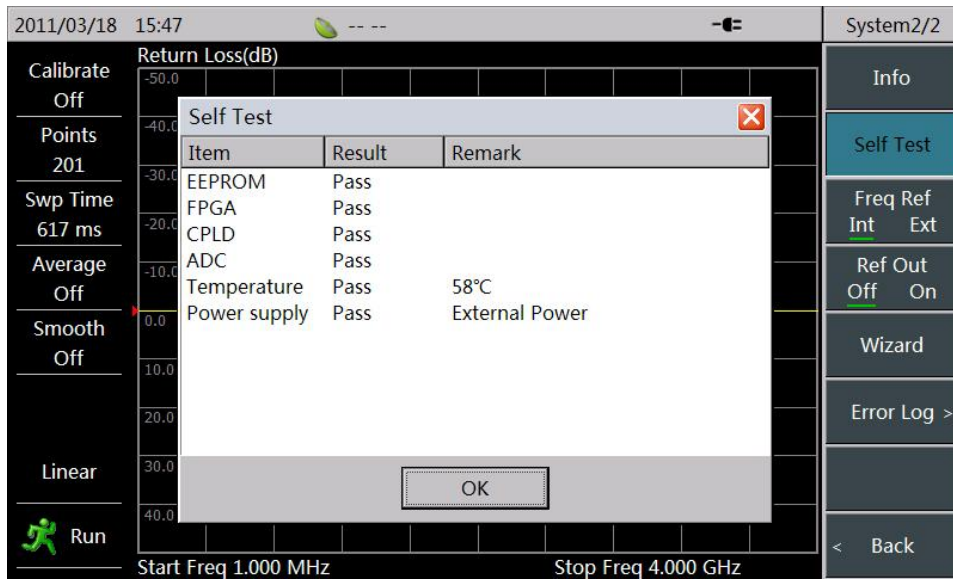

Figure 6-17 Self-test of Instrument
- Click [Self test] menu to call up a selection dialog box of “Self test”; in this dialog box, you may check self-test results of each item such as EEPROM, FPGA, CPLD, internal temperature and power supplying condition etc. As shown in Figure 6-17: